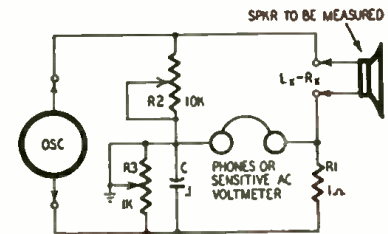

Fig. 4—Bridge circuit and values.
A circuit of a bridge for measuring speaker voice coil impedance is shown in Fig. 4. Resistor R1 should be of the carbon (noninductive) type. Impedance can be measured with the speaker operating at any power. One consideration not of great concern in the usual general-purpose bridge is the power rating of R1. In the circuit of Fig. 4 current flowing through the voice coil also flows through R1. Wattage rating of this resistor is determined by the greatest power at which the speaker is measured.
- Parts for Fig. 4 bridge